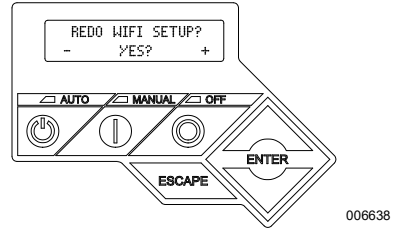

Figure 3-7. Redo Wi-Fi Setup Page
2. See Figure 3-7. Use Up/Down and ENTER buttons to scroll to the **REDO WIFI SETUP?** page. Select YES.